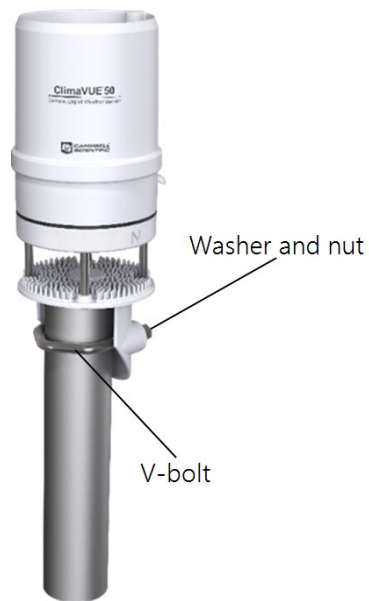

Figure 7-2. ClimaVUE 50 mounted to a pole with V-bolt and nuts
2. Loosely mount the ClimaVUE 50 to the tripod mast, CM300-series pole, or mounting tube by using the V-bolt, washers, and nuts (Figure 7-2 (p. 17)).